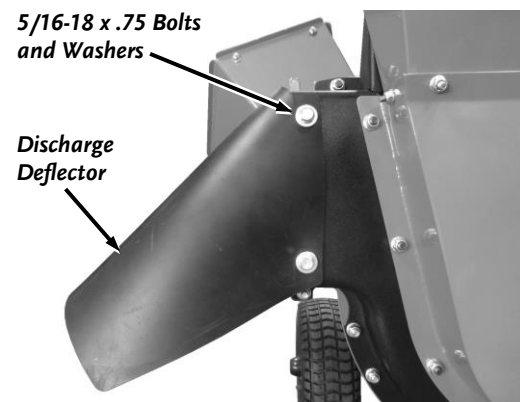

Figure 10
1. Secure one side of the Discharge Deflector at the two mounting locations with 5/16-18 x .75 Bolts and Washers using a 1/2" Wrench (**Figure 10**).